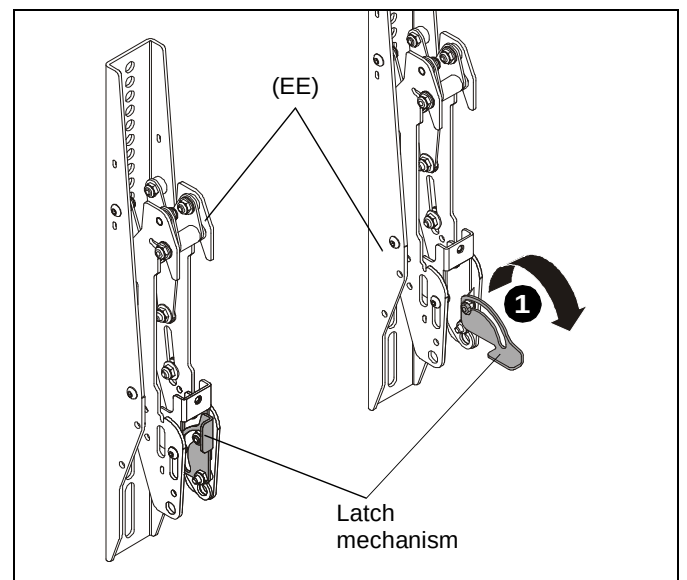

Figure 7
1. Lower the latch mechanism on each interface bracket (EE). (See Figure 7)
1. Ensure that the latch mechanisms on interface brackets (EE) are already lowered. (See Figure 7)